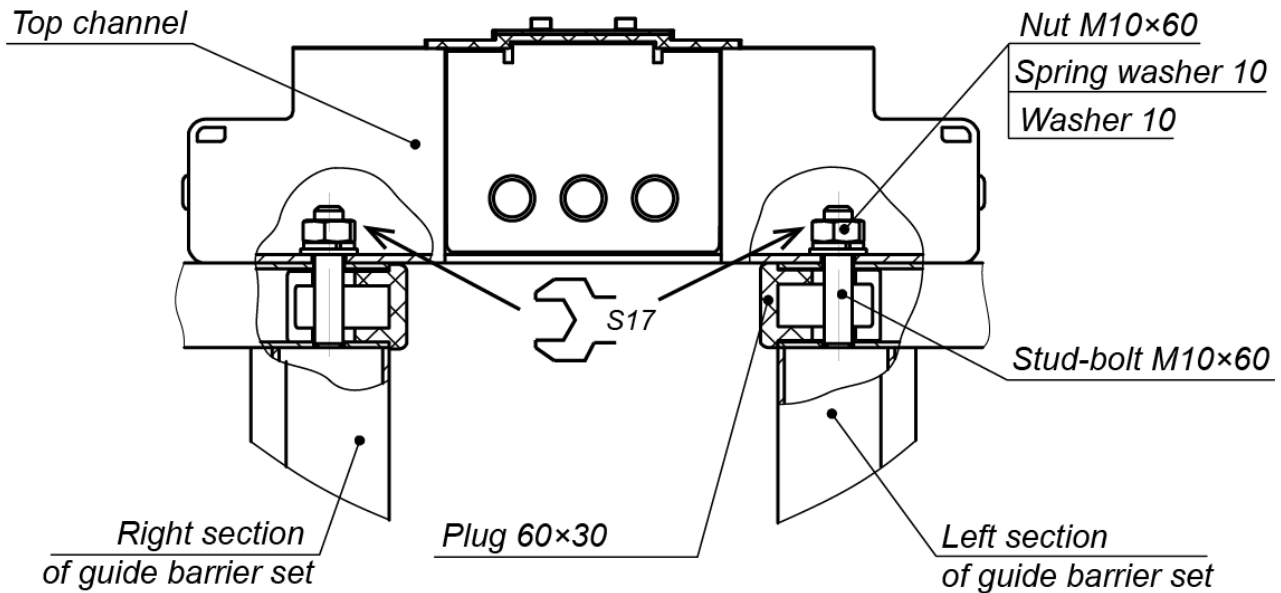

Figure 16. Top channel to barrier section fastening
15. Unpack the top channel (9) with the cover (10) (box №1).
16. Assemble the top channel (9) (performed by 2 persons minimum!):
- Take off the cover (10) from the top channel (as indicated in Sect. 6).
- Using two stepladders, lift the top channel and lean it above the turnstile so that stud-bolts installed in the guide barrier sections (6) get into the corresponding wholes of the channel. Do not damage the connecting cables!
- Holding the channel, lift it from the one side and lay the cable ends through the corresponding wholes of the top channel: indication cables (14) through the supporting girder (7). Temporary fasten them inside the channel (for example, with the tape). Repeat the assemble procedure from the opposite side of the top channel.
- Fix the top channel to the guide barrier sections with four nuts M10 with washers (Fig. 16), using the socket wrench S17. Do not tighten the nuts for later adjustment.